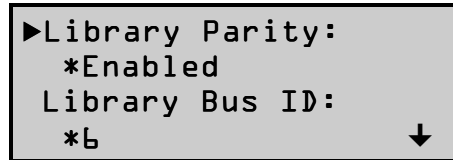

Figure 2-7 Set SCSI Submenu
4. To select a configuration option, press the ▲ or ▼ button on the control panel until the ► on the display is next to the option you want to change. In this case, let us choose Set SCSI. Press the Enter button to display the choices for that option. The submenu in Figure 2-7 appears.
Note: Take a moment to look closely at the submenu in Figure 2-7. Note that the ► on the display is next to line 1, *and* that line 2 is indented. This tells you that Figure 2-7 is a *two-tiered menu*. The ▲ and ▼ buttons work on two levels in this kind of menu, which is typical of many submenus of the Configure Menu. The first level is as follows: If you press the ▼ button, the ► moves to line 3. If you press the ▲ button, the ► moves back to line 1.